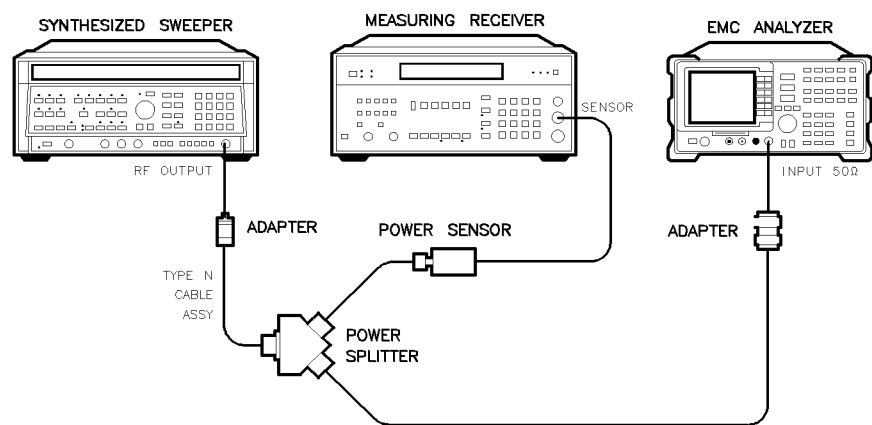

Figure 2-23. Frequency Response Test Setup, ≥ 50 MHz, HP 8591EM
2. Connect the equipment as shown in Figure 2-23.